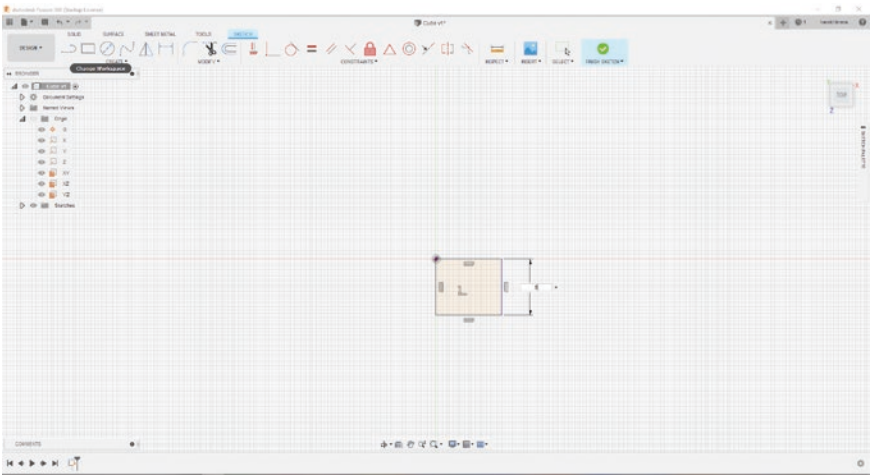

Figure 3-46. Add dimensions for one side of the rectangle
9. Now let's constrain the other two sides. Press the “D” key. Select one of the blue sides and enter the value 5. (I am using millimeters; this can be switched in the Browser menu under Document Setting ► Units). Now three sides are constrained. See Figure 3-46.